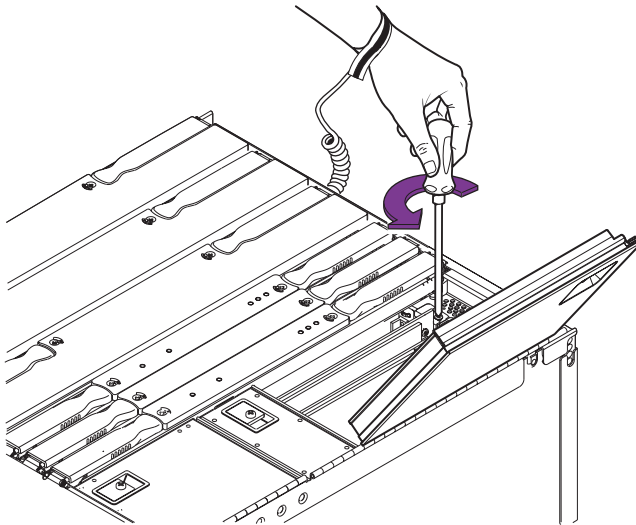
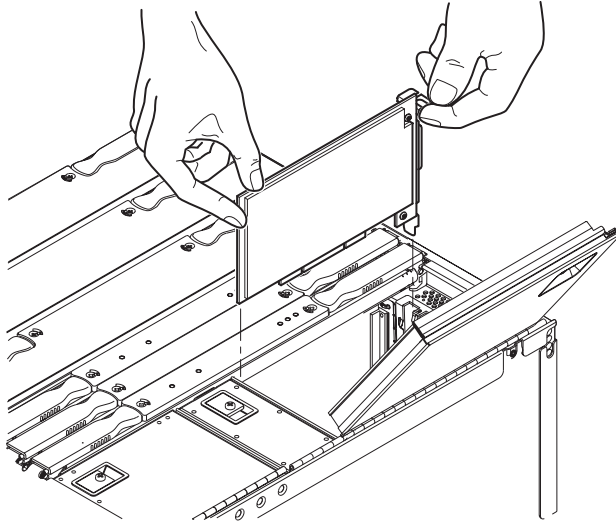

FIGURE 10-8 Removing the PCI Card Retaining Screw
FIGURE 10-9 Removing a PCI Card
9. Remove the retaining screw. Gently pull the card upward until it is free of the IB_SSC receptacle (FIGURE 10-8 and FIGURE 10-9).